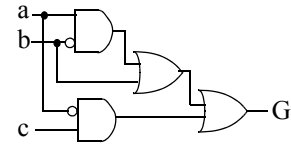

Figure 2.79
- 2.33 Create a Boolean equation representation for the digital circuit in Figure 2.79.